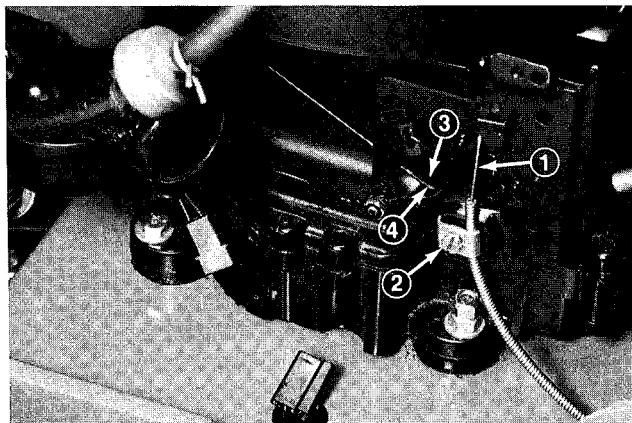

Figure 5
2. Hook wire Z-bend into left side hole of throttle linkage (Fig. 5).
3. Loosen cable clamp screw allowing cable installation, but do not tighten (Fig. 5).